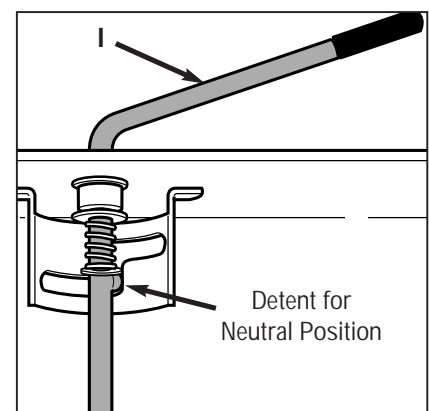
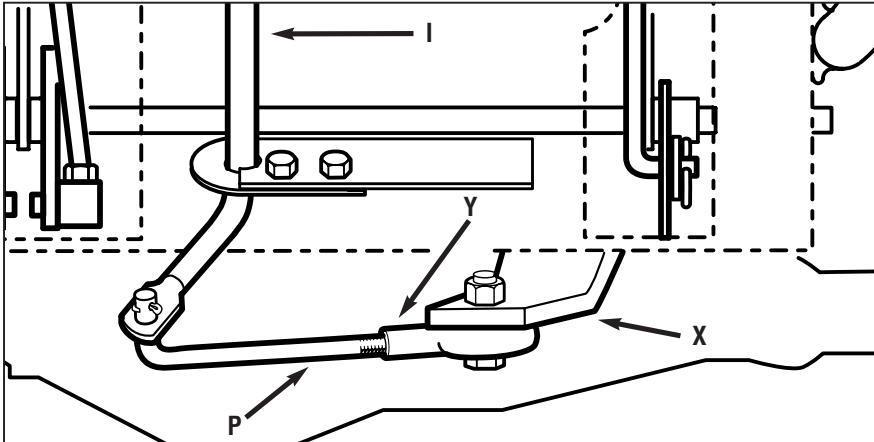

Figure 5-14: Lever in neutral (N) position.
Figure 5-15: Transmission neutral (N) adjustment.
2. Rotate shift rod (I, Figures 5-14 and 5-15) clockwise until it stops in the neutral (N) position (from forward gear positions).
4. Remove cotter pin securing shift link (P, Figure 5-15) to shift rod (I).
5. Move shift arm (X) back and forth as necessary into each detent until transmission is in neutral. NOTE: Moving shift arm (X) clockwise all the way to the left, and then one notch back counter-clockwise, should put transmission into neutral. When transmission is in neutral, unit will move freely when pushed while holding the Operator Presence Control lever down. If transmission is NOT in neutral, there will be a slight drag on the wheels when pushing unit.
6. When shift arm (X) is in neutral position, rotate shift link (P) until hooked end fits back into hole in bottom end of shift rod (I). NOTE: Shift rod (I) must be held in the neutral position (see Figure 5-14) while shift link (P) is adjusted.
7. Secure shift link (P) into shift rod (I) with cotter pin removed earlier.
8. Re-check neutral by pushing unit back and forth and shifting lever (I) from reverse to neutral. A small fine-tune adjustment may be required.